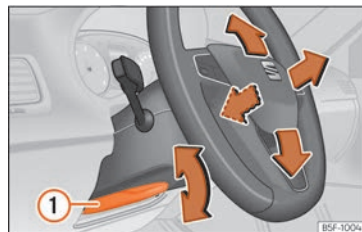

Fig. 24 Lever in the lower left side of the steering column.
• Adjusting the position of the steering wheel: pull the » » » **Fig. 24** ① lever down, move the steering wheel to the desired position and lift the lever back up until it locks.